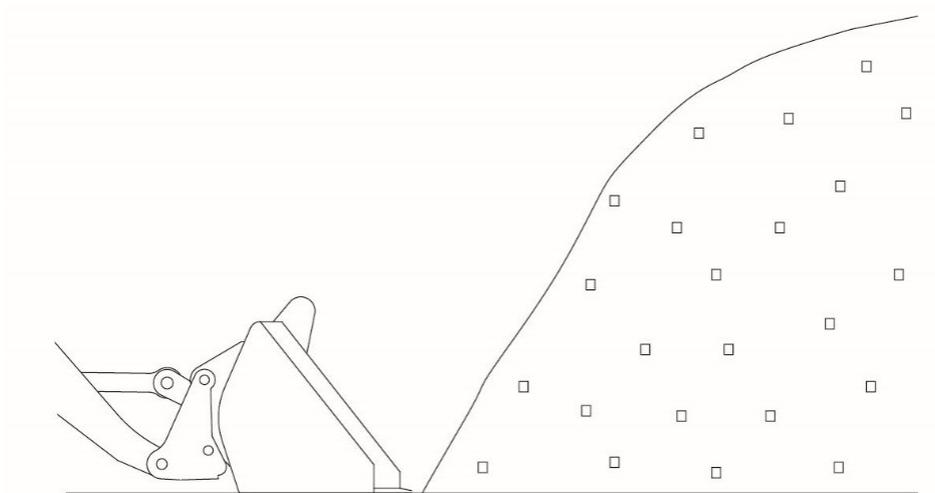

Figure 5-46 Loading operation (2)
Step 3: Lower the bucket slowly so that it touches the ground. If the stockpile is loose material, put the bucket flat; If the pile is gravel, tilt the bucket slightly, as shown in Figure 5-46 and 5-47;